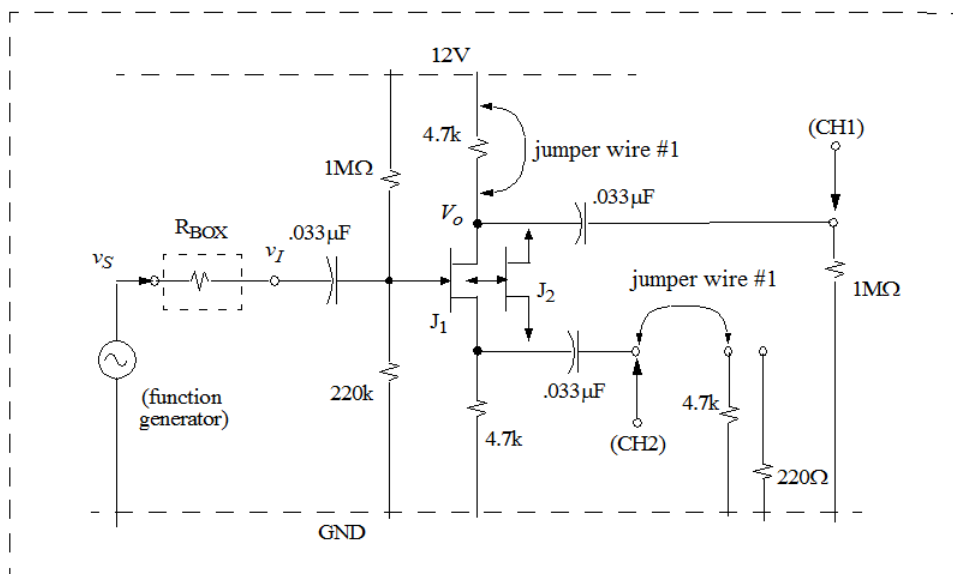

Figure 11C-1. Test bed for extraction of JFET parasitics
C-1: Replace the circuit topology of figure 11A-1 with that shown by figure 11C-1. Repeat the measurement sequence of part A, except this time using a pair of nJFETs as shown
D-1 Repeat the measurement sequence of part B, except with figure 11C-1 and the pair of nJFETs rather than the BJTs.
6. Execute a pSPICE on the circuit of figure 11C-1 with the input source at 1mV and the output node labeled as *Vo1*. Let $G_{box} = 1/R_{box}$ be varied by means of the **Analysis>Setup>Parameter** menu. Under the postprocessor (Probe) menu invoke the 'Performance Analysis' menu and execute the following function